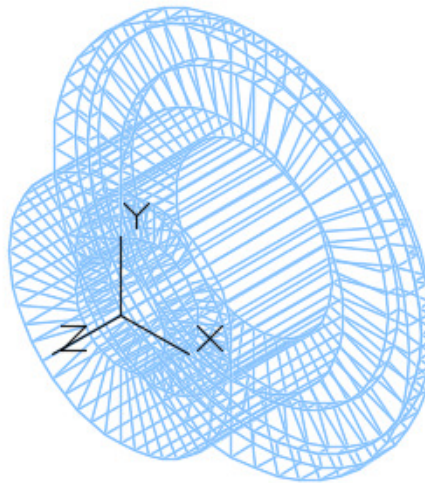

Figure Step 10
Step 10 Change the current layer to layer: Surface_1 and enter the REVSURF command as shown below. After you complete the command, your model should appear as shown in the figure. (Figure Step 10)